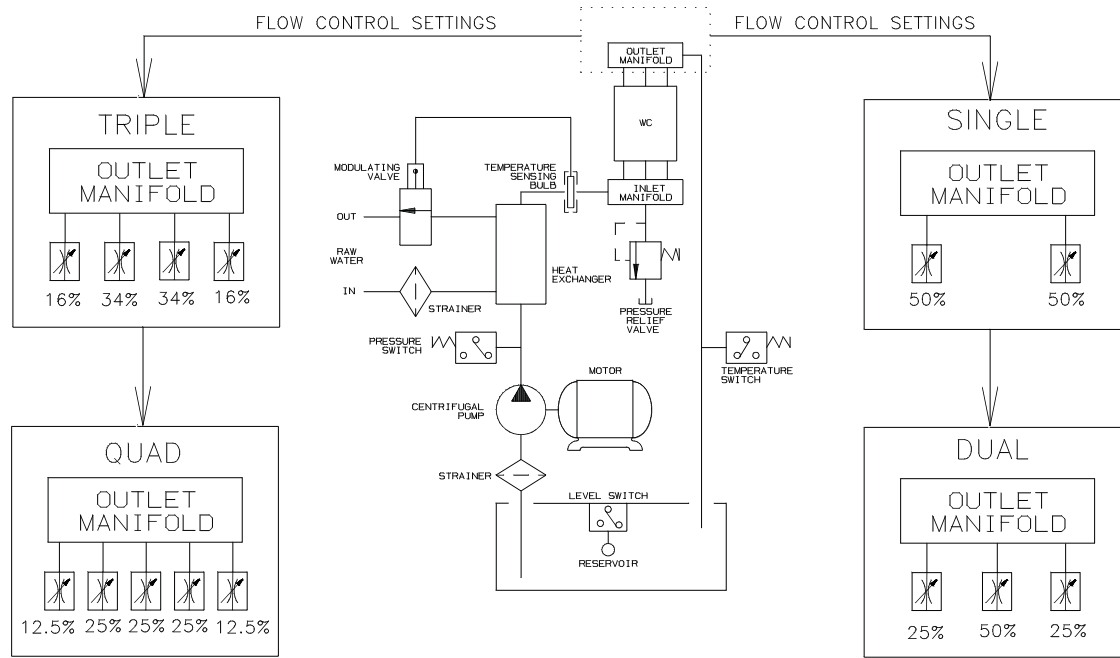

Figure 5
- 2.4.4 Inlet and outlet coolant manifolds must be provided. Manifolds should be constructed to allow for even flow through all ports. On sizes 18" and larger, two hoses can be routed to the reaction plates (30) to assist with balancing the flow to each wear plate.
Note : Reaction plates (30) in WCB2 sizes 18" and larger typically have two inlet and two outlet ports to assist with obtaining balanced flow to each cooling chamber. In the event that a multiple disc tensioner includes an older style reaction plate with only one inlet and one outlet port, water flow should be restricted at the inlets to the pressure plate (13) and mounting flange (1) to allow for equally proportional heat dissipation at each cooling cavity. See **Figure 5**
- 2.4.8 **Figure 5** illustrates a typical closed loop liquid to liquid coolant system. The heat exchanger and temperature control would be replaced with a radiator, fan and motor in a liquid to air system.